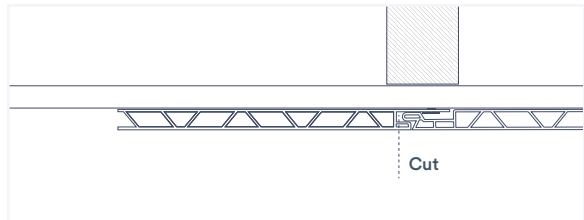

Fig. 41
4. On the groove side that remains, make another cut $3/8$ " away from the panel joint in the direction of the previous cut (Fig. 41) [next page]